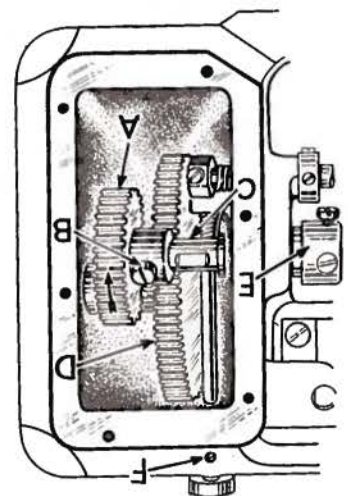
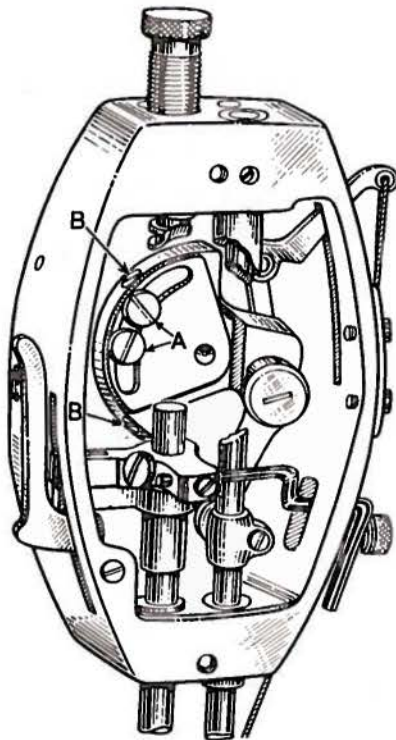

Fig. 19
Fig. 20
3. Loosen screws (B, Fig. 19) and slide gear (A) to the extreme right so it is out of mesh with the idler gear (D).
4. Looking through the stitch length indicator window on the top of the bed plate, rotate the lower main shaft (C) in the operating direction until the timing mark "T" appears between the pointers of the indicator window. Then, rotate upper main shaft in the operating direction until the needle bar reaches its highest position and has descended 1/32 inch. Carefully turn gear (A) without disturbing the lower main shaft setting until the set screw lies directly above the flat in the lower main shaft. The gears should then be engaged as closely as possible in this position. While holding the gear and thrust collar (E) tightly between thumb and forefinger, tighten set screw against flat in shaft securely. Then, tighten the second set screw and check to see that there is no end play in the shaft, and that the machine revolves freely.
If, after making the above adjustments, the needle bar is not in its desired position when the timing mark is in the window, further adjustment may be made by using the slotted segment located on the counterweight in the head of the machine (Fig. 20). Loosen the two screws (B) holding the counterweight to the shaft, and also loosen the two screws (A) holding the segment to the counterweight.